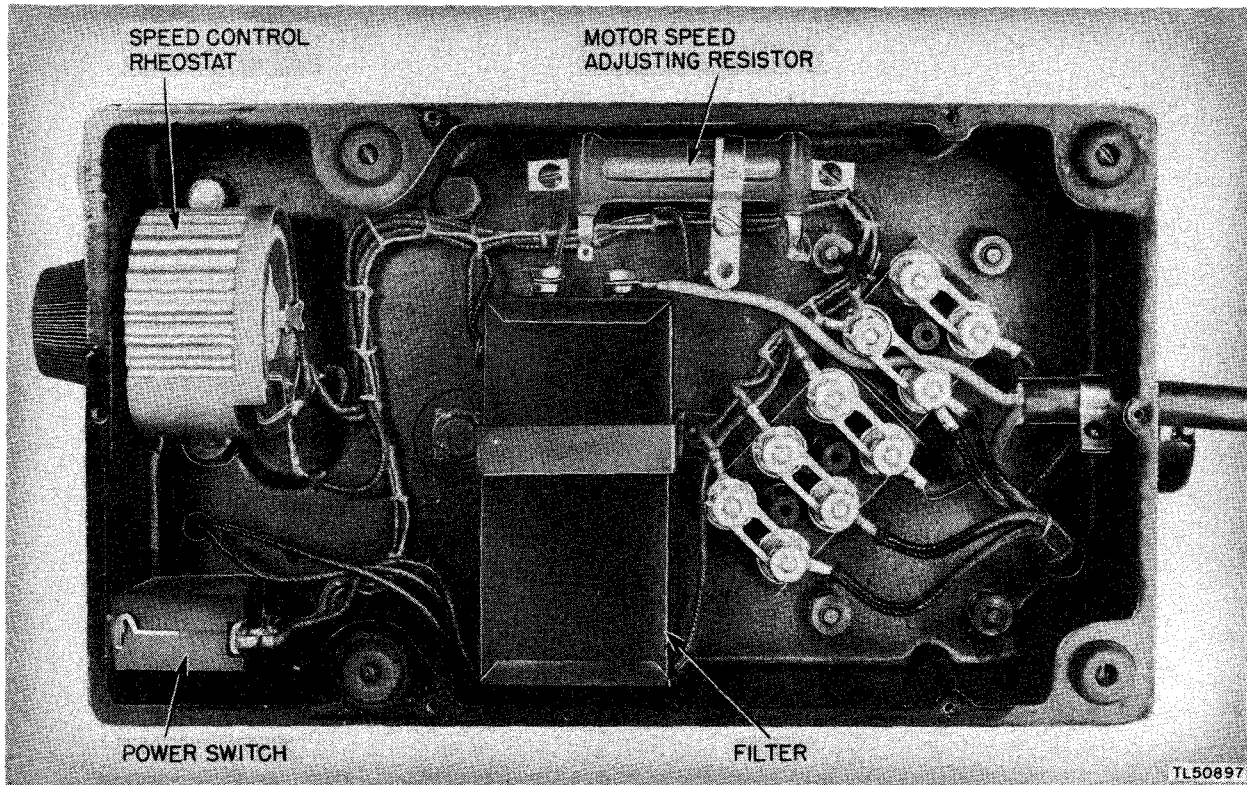

Figure 55. Tape puller, type 4-F, bottom view.
c. A cast base on which are mounted the motor and gear box and either the rewinder or the magnetic release attachment. The base (fig. 55) contains the wiring of the unit, a rheostat for the control of motor speed, the terminal block for making connections, a cable and plug to connect the motor to the d-c line, and a filter to eliminate any electrical disturbance created by the brushes of the tape puller motor.